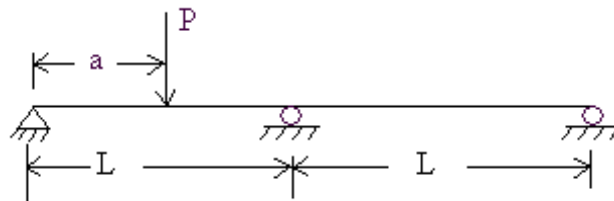

Figure 4
1. For the indeterminate beam as shown in figure 4, find the redundant reaction. [16]